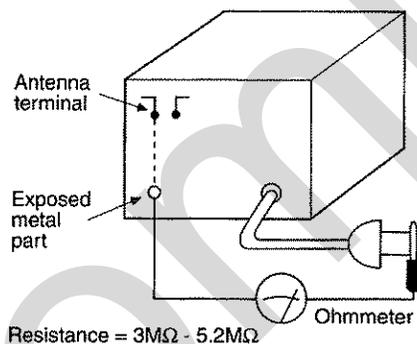
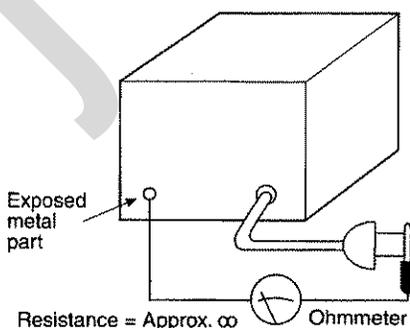

Fig. 1
Fig. 2
3. Measure the resistance value with ohmmeter between the jumper AC plug and each exposed metal cabinet part, such as screw heads, antenna, control shafts, handle brackets, etc. Equipment with antenna terminals should read between  $3M\Omega$  and  $5.2M\Omega$  to all exposed parts\*. (Fig 1) Equipment without antenna terminals should read approximately infinity to all exposed parts. (Fig 2)